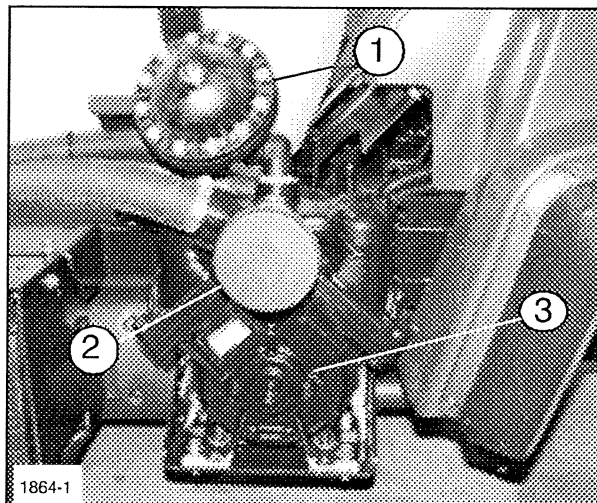

FIG. 5
### PUMP ASSEMBLY (FIG 5)
**12. PRESSURE DAMPENER:** Smooths pressure pulsation in spray system. See FIG. 5.
**13. SUCTION DAMPENER:** Prevents Pump cavitation. See FIG. 5.